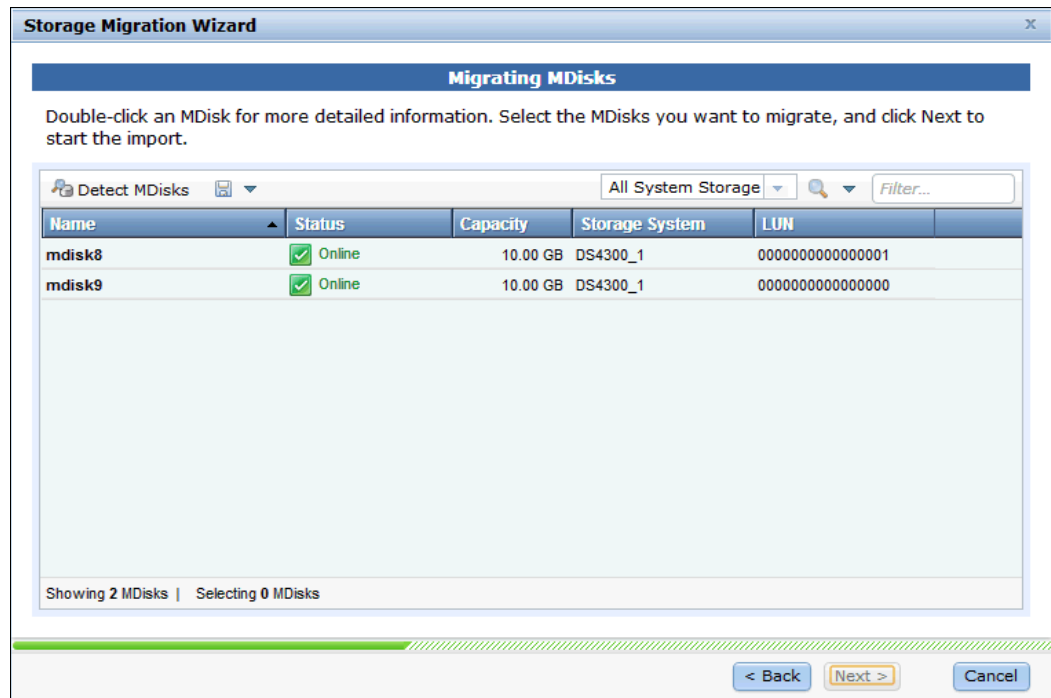

Figure 7-13 Storage Migration Wizard step 4 - Select MDisk
- The Storage Migration Wizard performs scanning for any new or unused MDisks automatically and displays them in the list. Choose the MDisks you want to migrate and click **Next** (Figure 7-13).
In Figure 7-13, two LUNs are discovered as MDisks that are candidates for migration. At this point, you may need to reference the SCSI ID information that you recorded earlier to identify these MDisks individually. In our example, the MDisks have been selected to go forward to the next step.